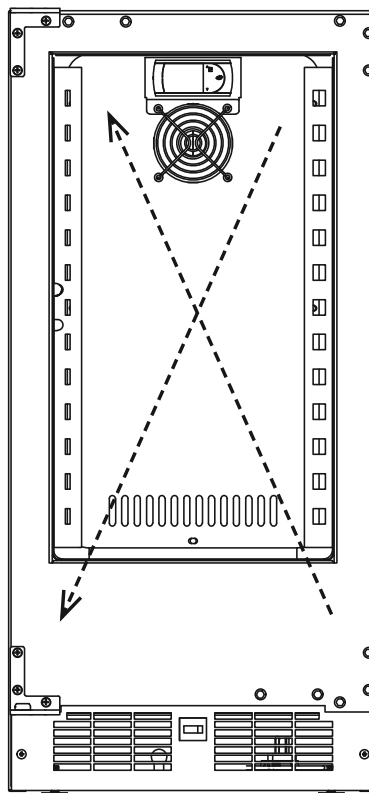

FIG. 11
Step 9. Attach the Upper Right Hinge to the lower left corner, then attach the Lower Right Hinge to the upper left corner. See figure 11.